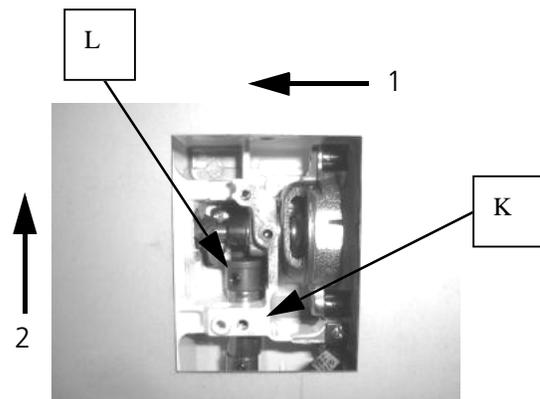

FIGURE 2-13
- After fixing the hook body, turn the lower shaft gear in the arrow 1 direction until it touches the wall as shown in Fig.2-13 and lightly press it to the hook shaft gear by shifting it in the arrow 2 direction.